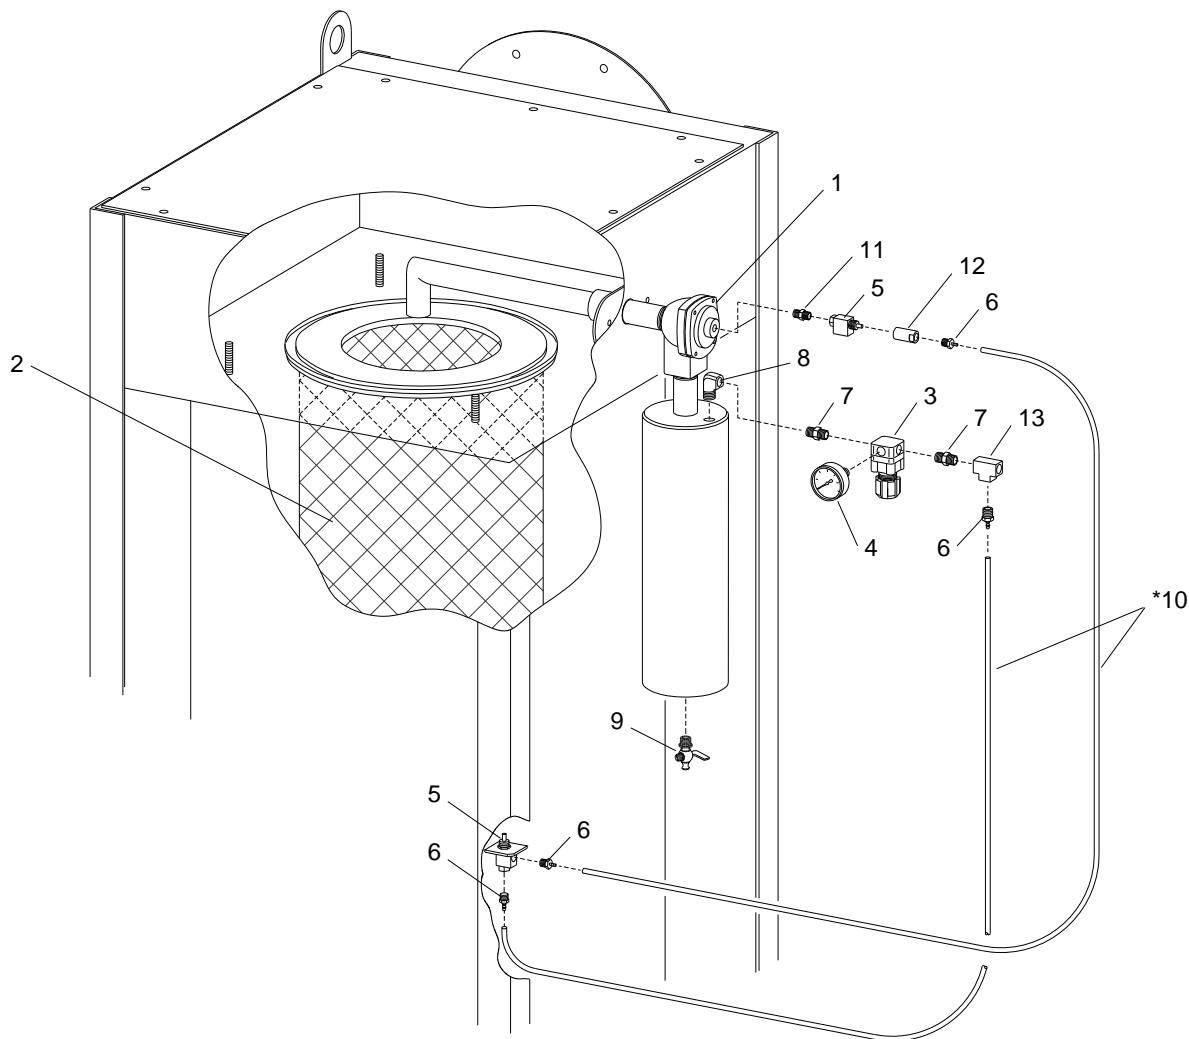

Figure 29
9.5 Cartridge and Pulse Assembly – Figure 29